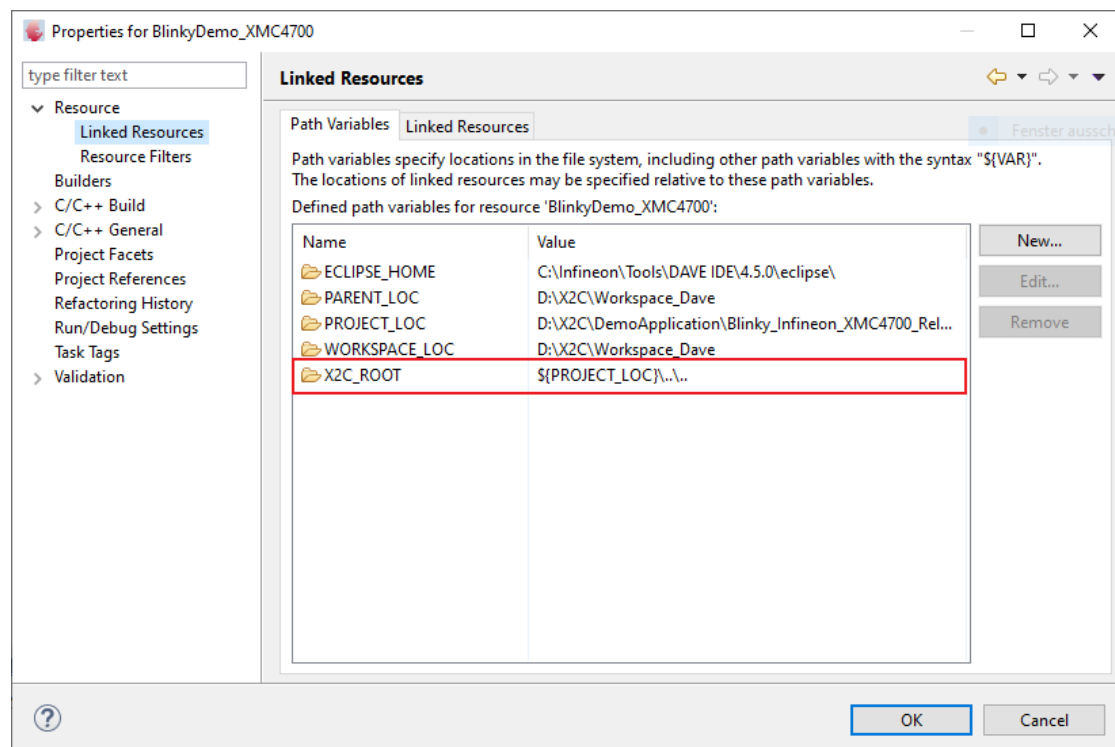
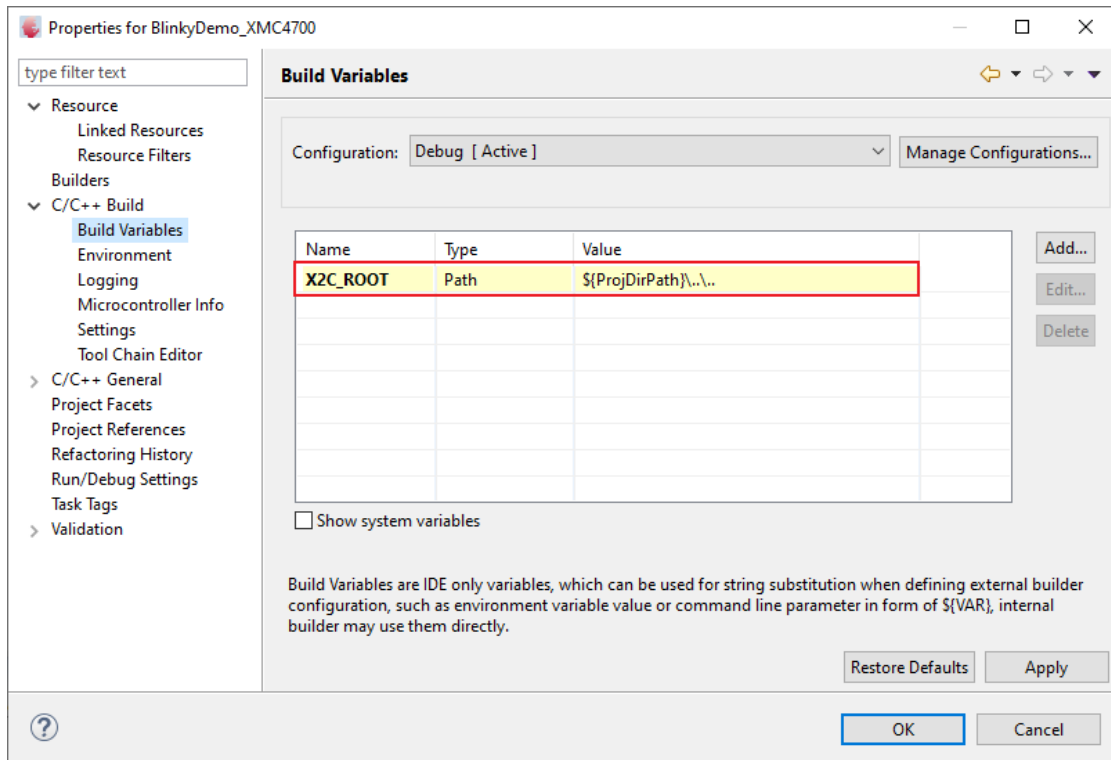

Figure 11: *DAVE IDE* resources settings
Figure 12: DAVE IDE build variables setting
3. In the *DAVE IDE* file structure of the *Blinky* demo project are two virtual folders *X2C-Blocks* and *X2C-Core*, which are linked relatively to the *X2C* directory. If the *Blinky* demo project is copied/moved to a different location, the resource property *X2C_ROOT* as seen in Figure 11 and the build variable *X2CDirPath* as seen in Figure 12 have to be adapted.